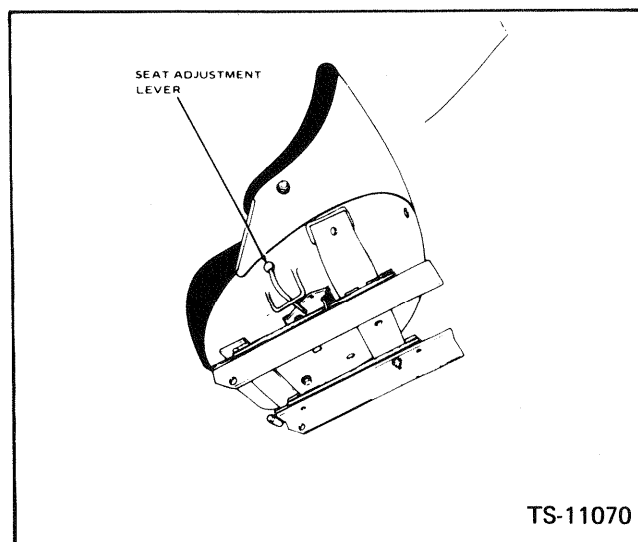

Fig. 2-2 Operators Seat Adjust Lever
28. **Seat Adjustment Lever** — The operator's seat can be shifted forward or backwards to suit the individual, by moving the lever on the left hand side of the seat forward and shifting the seat to the desired position. Fig. 2-2. An additional adjustment in the height of the seat is offered. This can be done by removing the seat bracket mounting bolts and raising or lowering the seat to the desired position. Machines equipped with a rotating seat, have a hand screw located